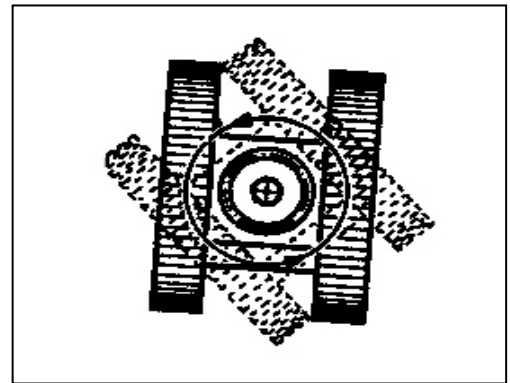

FIG 3-9
- Turn left (FIG. 3-9): Treadle right pedal 2 forward and treadle left pedal 3 backwards. (FIG. 3-6)